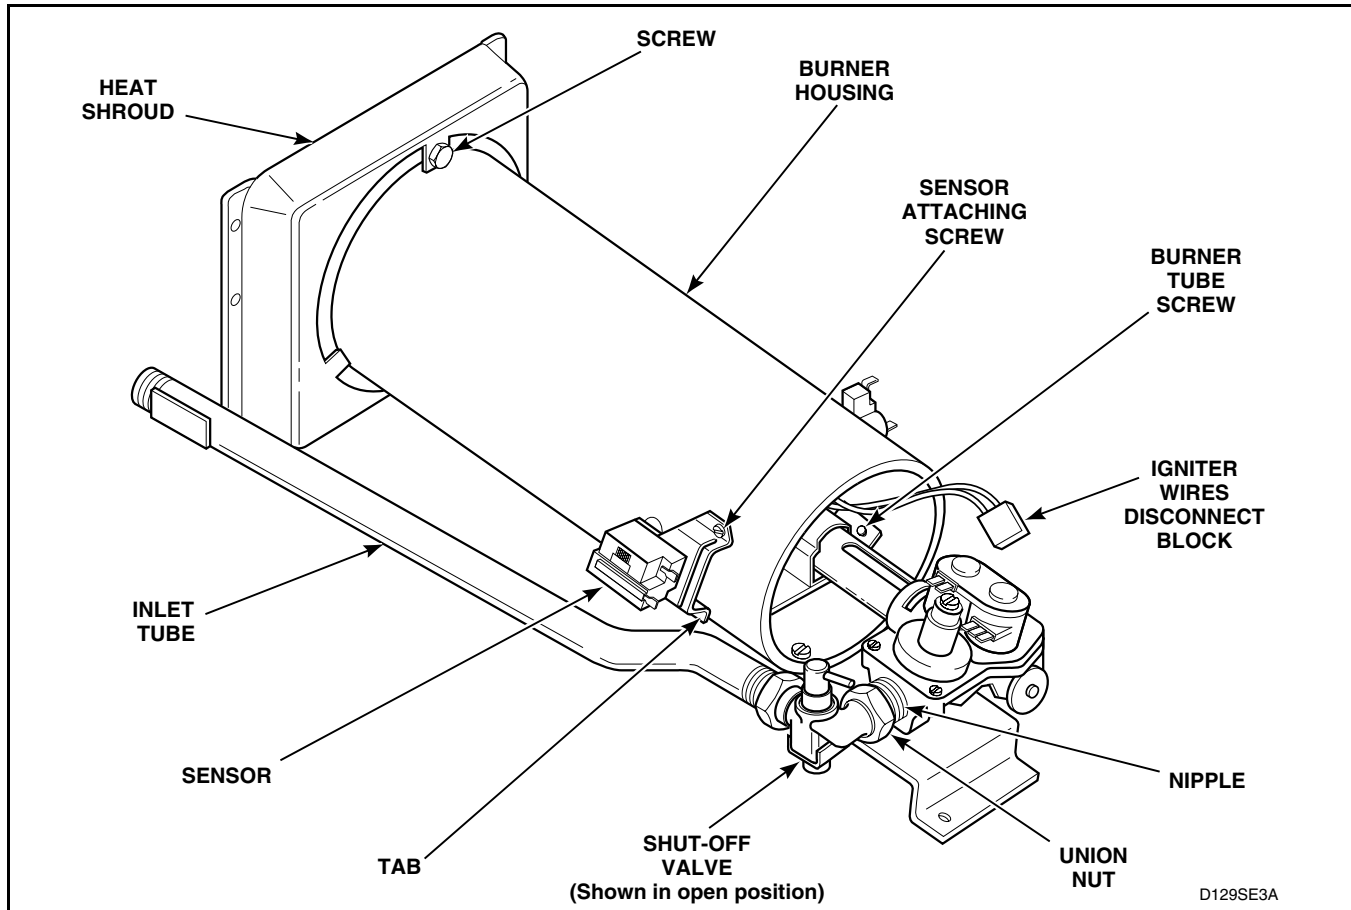
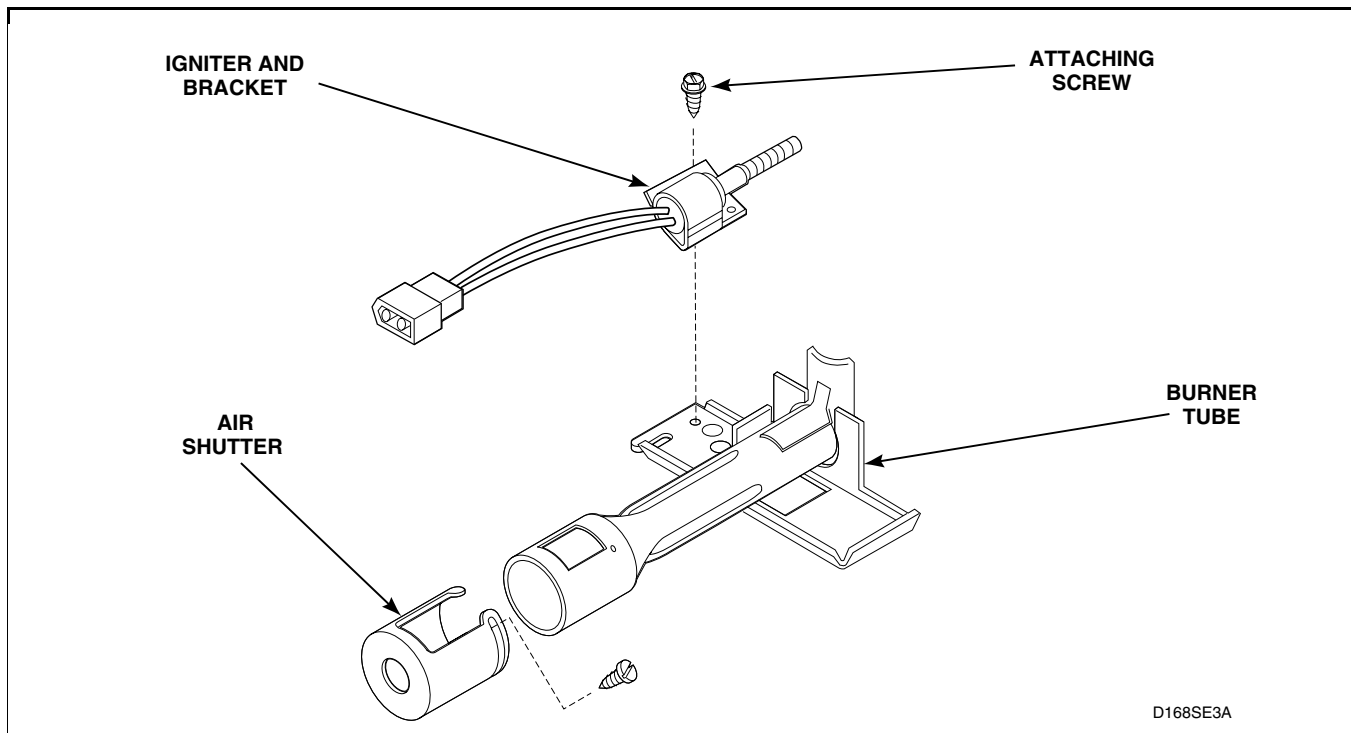

Figure 39
Figure 40
- (4) Disconnect gas shut-off valve from gas valve at the union nut. Refer to Figure 39.
- (5) Remove two screws holding valve and mounting bracket to base.
- (6) Slide assembly forward, then lift gas valve and mounting bracket from base. Refer to Figure 39.
- (1) Remove one screw from right side of burner housing holding burner tube in place. Refer to *Figure 39*.
- (2) Gently move burner tube toward rear of dryer to disengage tab from slot on left side of burner housing. Refer to *Figure 39*.
- (3) Carefully rotate burner tube and igniter counterclockwise so tab is at 8 o'clock position.
- (4) Move air shutter end of burner tube slightly to right and **CAREFULLY** remove burner tube and igniter assembly out through front of dryer.
- (5) Remove screw holding igniter and bracket to burner tube and remove igniter and bracket. Refer to *Figure 40*.
1. Disconnect igniter wires at disconnect block. Refer to *Figure 39*.
- (2) Gently lower the access panel to disengage guide lugs from bottom edge of front panel.
- (3) Remove wires from sensor terminals. Refer to *Figure 39*.
- (4) Remove screw holding sensor to burner housing. Refer to *Figure 39*.
1. Remove wires from sensor terminals. Refer to *Figure 39*.
- Gently move burner tube toward rear of dryer to disengage tab from slot on left side of burner housing. Refer to *Figure 39*.
- Remove screw holding burner housing to heat shroud. Refer to *Figure 39*.